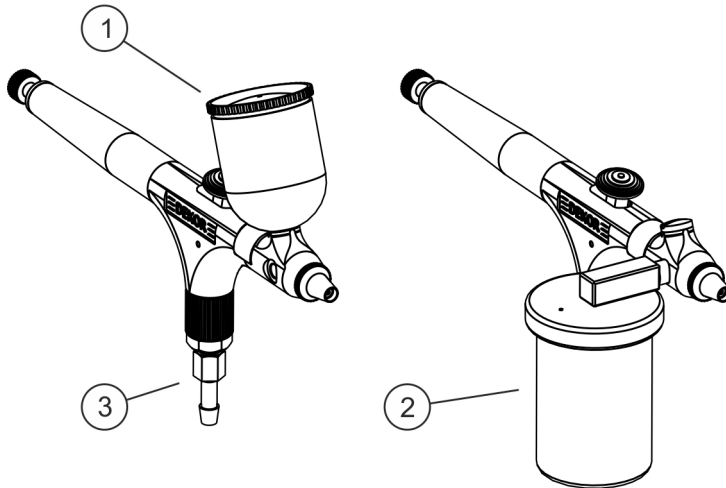

Fig. 2: Connections Dekor
1. ➤ Connect the compressed air supply to the compressed air connection (Fig. 2/3) of the hand-held spray gun.
2. ➤ Screw on or insert fluid cup (Fig. 2/1 or 2) into the hand-held spray gun.